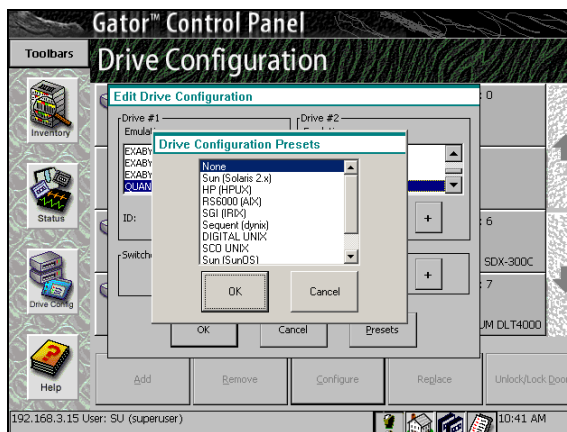

Figure 8-4 Drive Configuration Presets window.
6. Tap **Presets** to select drive switch settings and emulation for your operating system (Figure 8-4). Select your operating system and tap **OK**. If the selections do not include your operating system, tap **Cancel**.